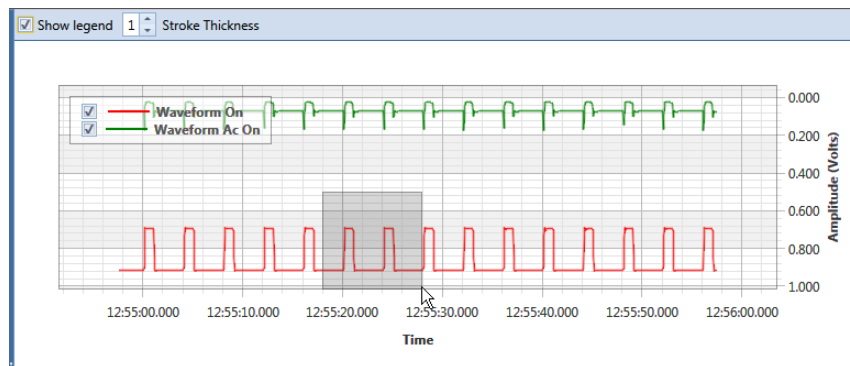

Figure 14-12. Zoom In On Graph
- *Zoom In*: Click and hold the mouse while dragging a selection over the graph to zoom in on the selected area of the graph. Double-click anywhere inside the graph to return to normal graph view (Figure 14-12).